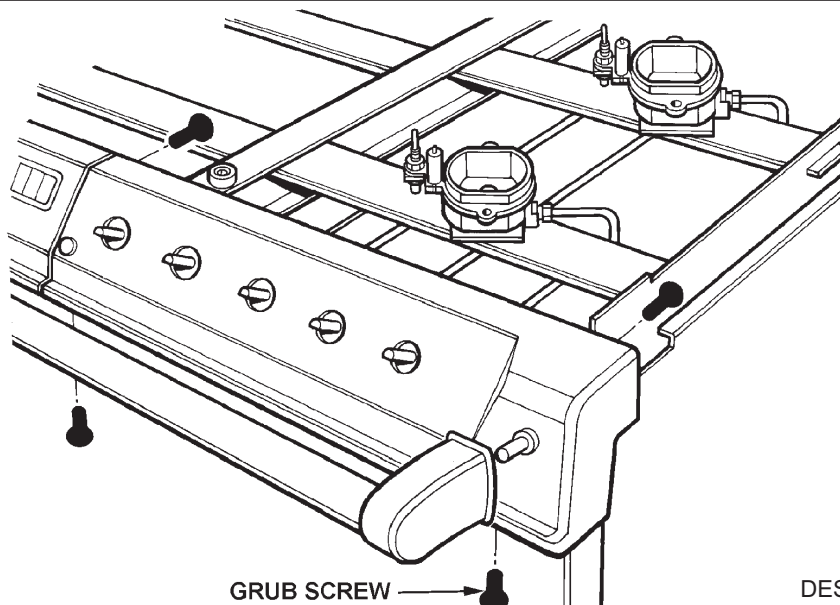

Fig. 25
4. Remove control panel fixing screws (4 per casting) (See Fig. 25). When removing the screws support the casting.
**D. TO REMOVE HANDRAIL (SEE FIG. 25)**
1. Loosen 2 grub screws, one at each end of hand rail (See Fig. 25) using 2 1/2 mm socket key.